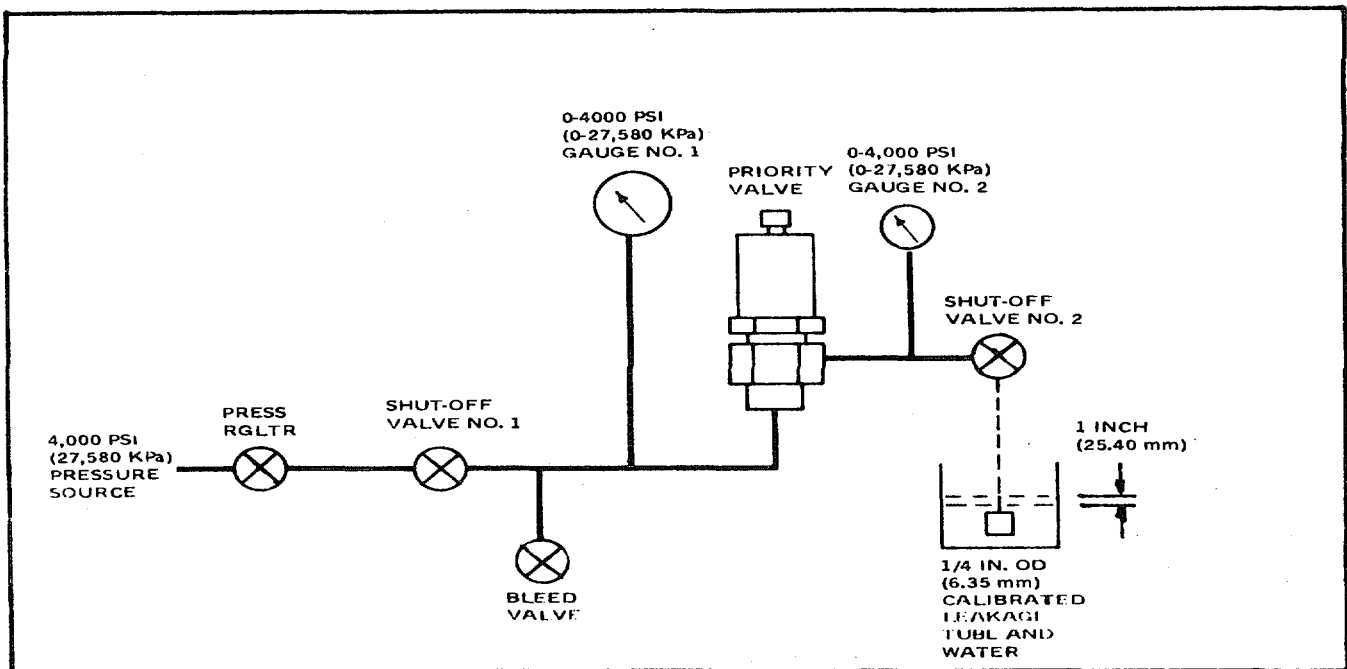

Figure 6-3. Priority Valve Test Setup
- (g) Close shut-off valve number two (Figure 6-3) and remove leakage apparatus.
- (4) Set valve to open at 2,200 psig (15,158 kPa) by adjusting set screw(2); refer to AIR PURIFICATION/DEHYDRATOR GROUP, INSPECTION, paragraph 6-5.c and Figure 6-3, then tighten ,nut (1) to secure set screw at this setting.